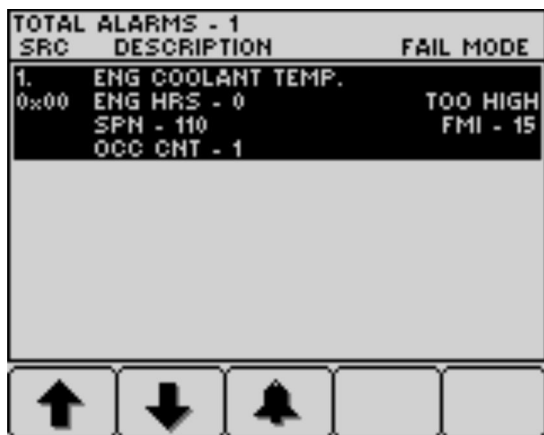

Figure 44
3. Press button 1 through 5 to view the active fault list (Figure 44).
4. Press button 1 through 5 to view the active fault list ; refer to Figure 44 in Engine Advisories Messages (page 40).